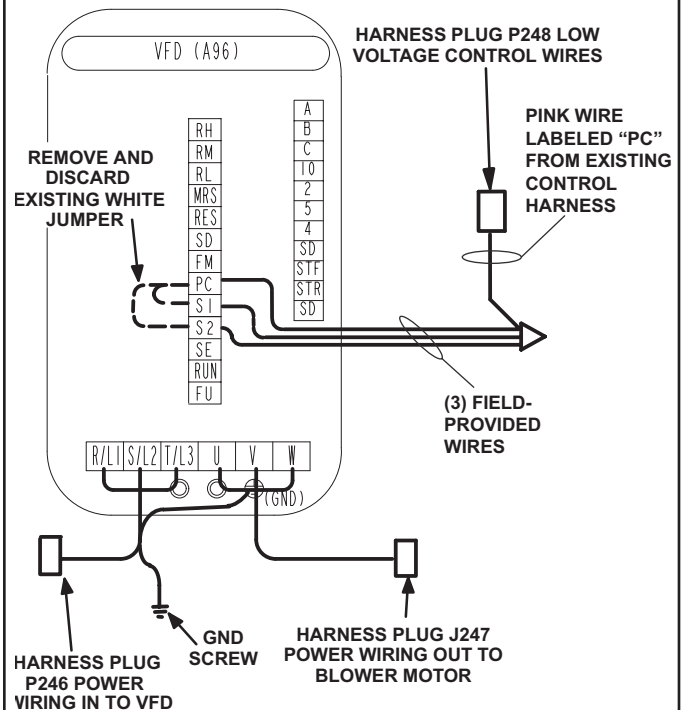

FIGURE 1
- 1 - Remove and discard the white jumper wire connected to PC/S1/S2 terminals. See figure 1.
- 2 - Connect pink wire from existing control harness to three field-installed wires using a wire nut. See figure 1.